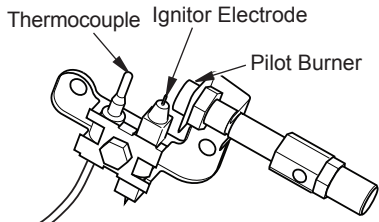

Figure 18 - Pilot
4. Wait five (5) minutes to clear out any air. Then smell for gas, including near the floor. If you smell gas, STOP! Follow "B" in the safety information on page 16. If you do not smell gas, go to the next step.
5. Turn control knob counterclockwise  to the PILOT position. Press in control knob for five (5) seconds (see Figure 18).